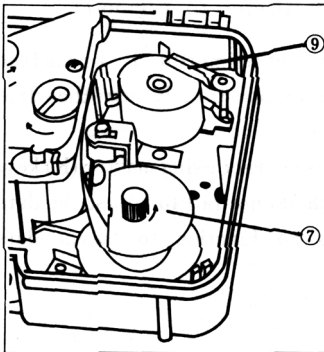

Figure 5.
### 3. How to Install the Roll Paper (Refer to Fig. 5, & 6).
- Release the roll **paper guide** [9] as shown in Fig. 5, and install the roll paper.
- Insert the end of the roll paper into the slot of the **paper tape winder** [7] as shown in Fig. 5, and turn the knob counter clockwise (as shown in Fig. 6) so that the roll paper has suitable tension.
#### 6. How to Remove the Roll Paper (Refer to Fig. 5, & 6).